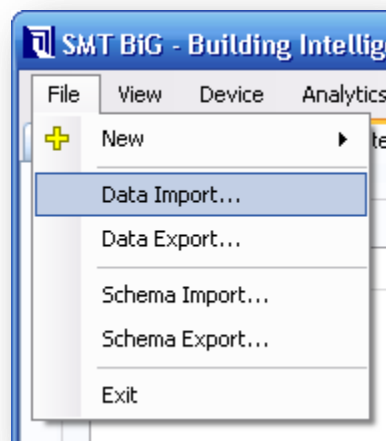

Figure 10-7 - Import data from a file using the File menu
1. Open the *Import Data* dialog by clicking *File* → *Data Import...* from the menu of the main window (see FIGURE 10-7).